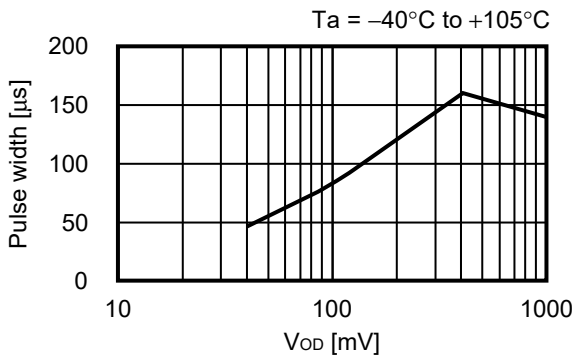
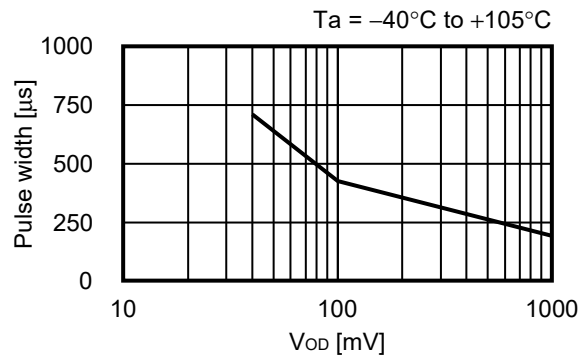

Figure 47 VDD Detection Product
Figure 48 SENSE Detection Product
Figure 47 and Figure 48 show the relation between pulse width and pulse voltage difference ( $V_{OD}$ ) where the release status can be maintained when a pulse equal to or lower than the detection voltage ( $-V_{DET}$ ) is input to the VDD pin (VDD detection product) or SENSE pin (SENSE detection product) during release status.
**Caution** Figure 47 and Figure 48 show the pulse conditions which can maintain the release status. If the pulse whose pulse width and  $V_{OD}$  are larger than these conditions is input to the VDD pin (VDD detection product) or SENSE pin (SENSE detection product), the OUT pin may change to a detection status.